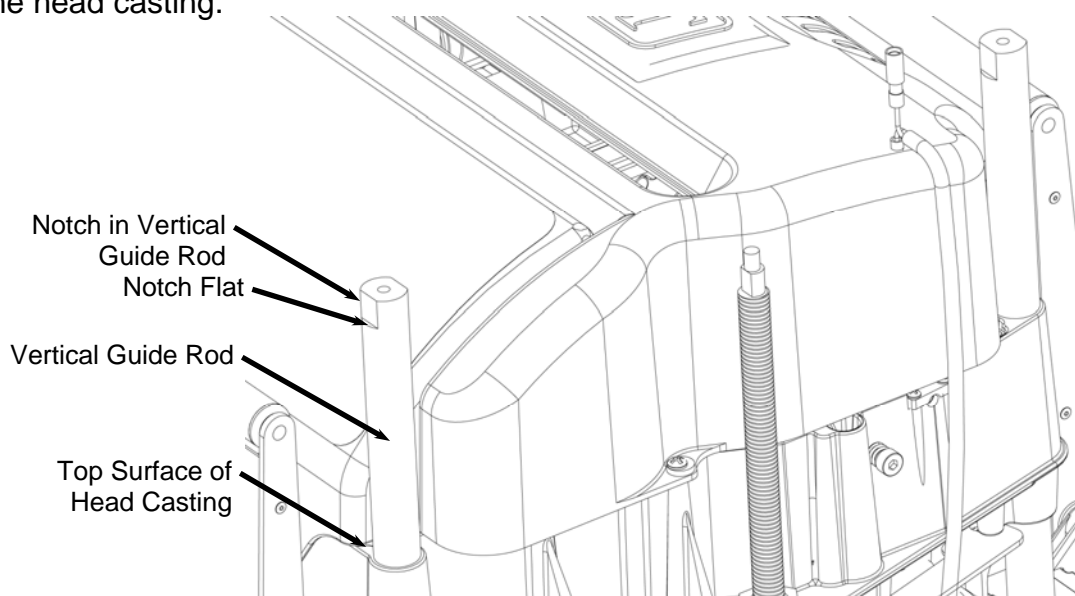

FIGURE 1: ALIGNING HEAD HEIGHT TO THE VERTICAL GUIDE RODS
2. **Adjust the head height.** Crank the head up toward the top of the machine. Crank it up until the top surface of the head casting is aligned with the flats on the vertical guide rods on the right side of the machine (opposite the keypad). In the Figure 1 below we have removed the right side panel so you can clearly see the notches on the top of the guide rods. You will need to align the notch flats to the top surface of the head casting.